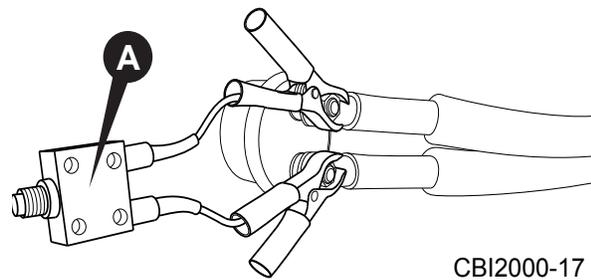

Figure 6.62 - Mount Safety Breaker Across Terminals
5. Mount Safety Breaker - Mount the Terex safety breaker (part number 80013138) across the terminals on the back of the battery disconnect switch (Figure 6.62 / A). Mounting the breaker ensures the entire electrical system is protected by the suppressor while still ensuring the machine cannot be started.